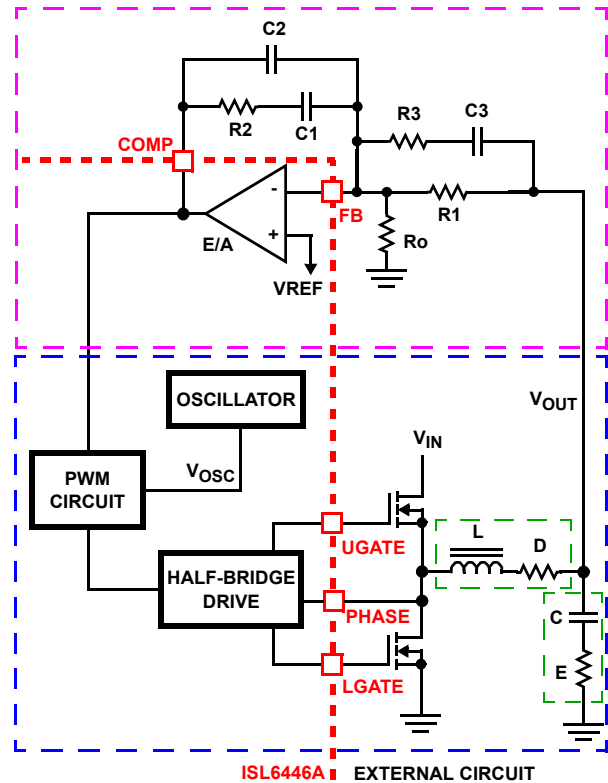

FIGURE 26. VOLTAGE-MODE BUCK CONVERTER COMPENSATION DESIGN
Figure 26 highlights the voltage-mode control loop for a synchronous-rectified buck converter, applicable to the ISL6446A circuit. The output voltage (V_{OUT}) is regulated to the reference voltage, V_{REF} . The error amplifier output (COMP pin voltage) is compared with the oscillator (OSC) modified sawtooth wave to provide a pulse-width modulated wave with an amplitude of V_{IN} at the PHASE node. The PWM wave is smoothed by the output filter (L and C). The output filter capacitor bank's equivalent series resistance is represented by the series resistor E.
The compensation network consists of the error amplifier (internal to the ISL6446A) and the external R1 to R3, C1 to C3 components. The goal of the compensation network is to provide a closed loop transfer function with high 0dB crossing frequency (F_0 ; typically 0.1 to 0.3 of F_{SW}) and adequate phase margin (better than 45°). Phase margin is the difference between the closed loop phase at F_{0dB} and 180° . The equations that follow relate the compensation network's poles, zeros and gain to the components (R1, R2, R3, C1, C2, and C3) in Figure 26. Use the following guidelines for locating the poles and zeros of the compensation network:
1. Select a value for R1 (1k Ω to 5k Ω , typically). Calculate the value for R2 for desired converter bandwidth (F_0). If setting the output voltage via an offset resistor connected to the FB pin, R_0 in Figure 26, the design procedure can be followed as presented in Equation 13.